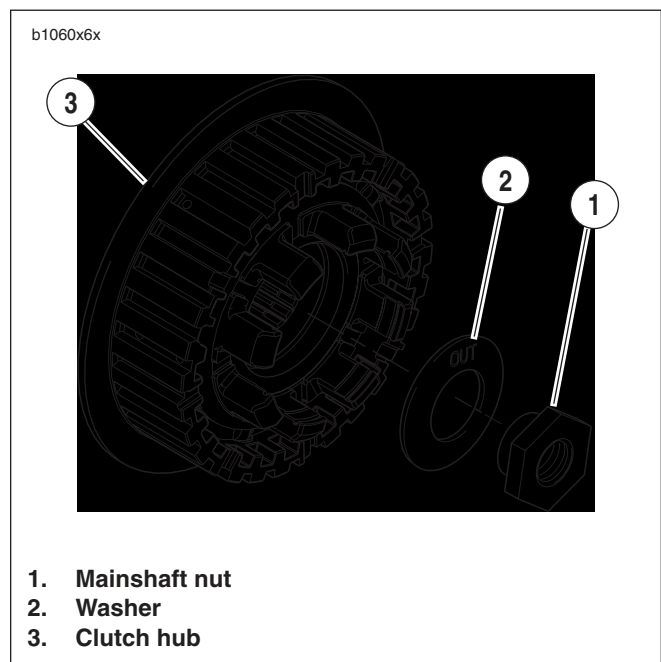

Figure 6-35. Mainshaft Nut and Washer
See Figure 6-35. Washer must be installed with the word "out" facing the mainshaft nut or transmission may be damaged.
6. See Figure 6-35. Install mainshaft washer (2) and nut (1).
- b. Place washer (2) on mainshaft with the word "out" facing away from clutch hub.
- c. Install nut (left-hand threads) (1). Tighten to 70-80 ft-lbs (94.9-108.5 Nm).